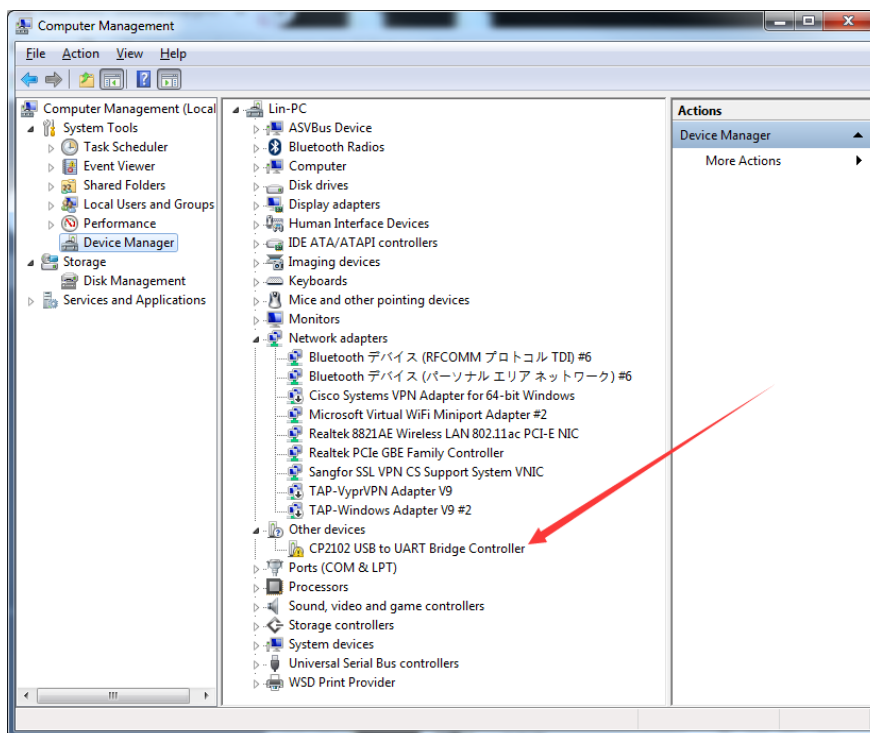
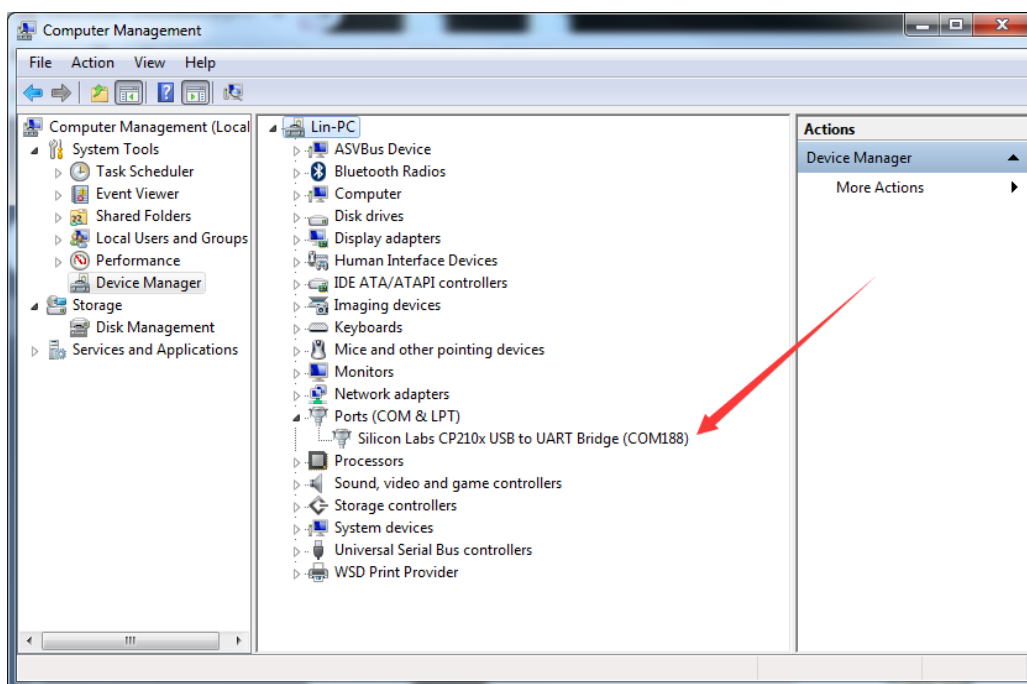

Fig.2 . USB driver installation-1
Fig.4 . USB driver installation-3
The following section introduces the process of the USB driver installation, as illustrated from Fig. 2 to Fig. 4 as well.
- 1) After plugging the sensor, Windows will pop out a message of "New hardware discovered", and the hardware will be listed up on the device manager window as showed in Fig. 2.
3) After installation is completed, the sensor USB connection will be recognized as COM port as showed in Fig. 4.
2) On the left hand side of the GUI, user can choose the corresponding COM number for instance "COM188" showed on Fig. 4 and the baudrate (921600bps in default) to create a sensor connection. After clicking the "Connect" button, the sensor information and data will be showed as following.